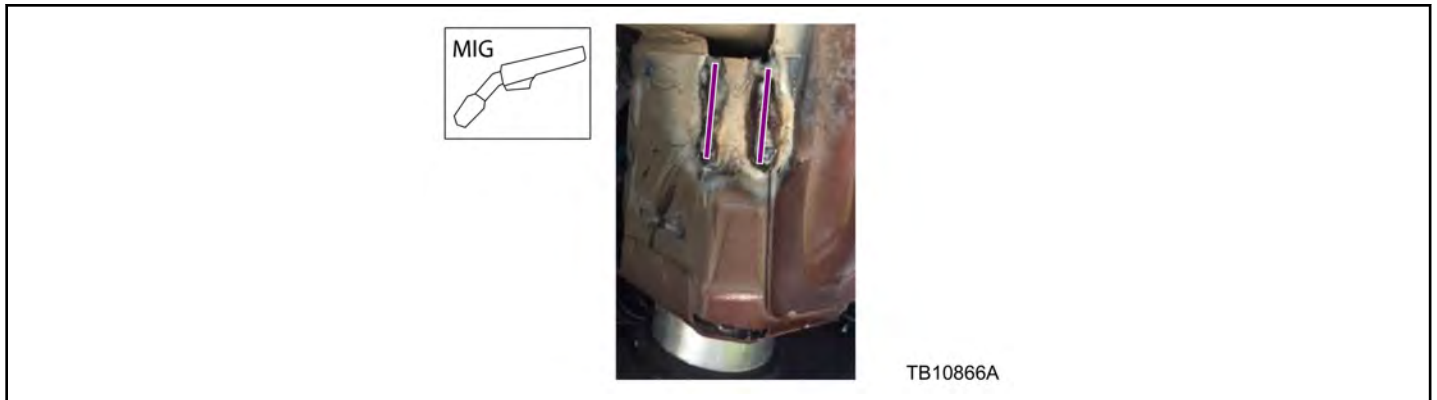

Figure 5 - Article 16-0021
11. Using a MIG welder, weld the previously cut sheet metal to repair the bracket. (Figure 5)